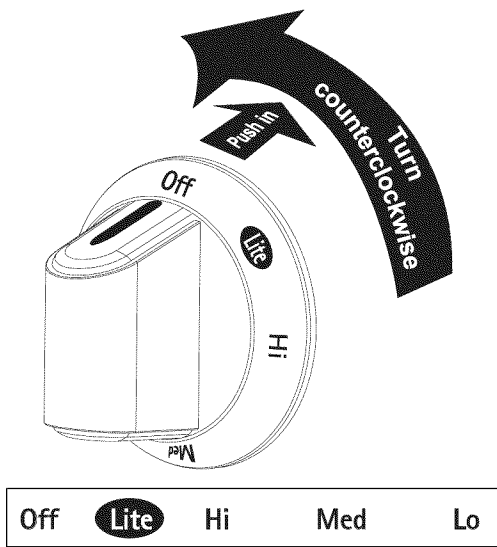

Fig. 1
2. Push the surface control knob down and turn **counterclockwise** out of the OFF position (See Figure 1).